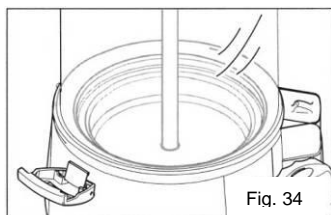

Fig. 34
- Fig. 34 shows correctly replaced container which uniformly adheres to the whole edge of the bottom.